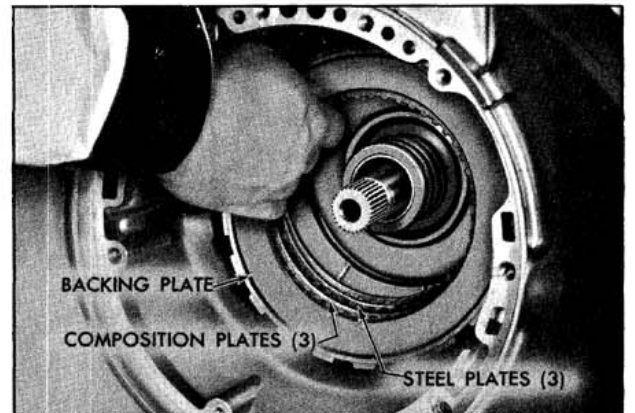

Fig. 6-72 Removing Clutch Plates
13. Remove the intermediate clutch backing plate, three composition and three steel clutch plates. (Fig. 6-72)